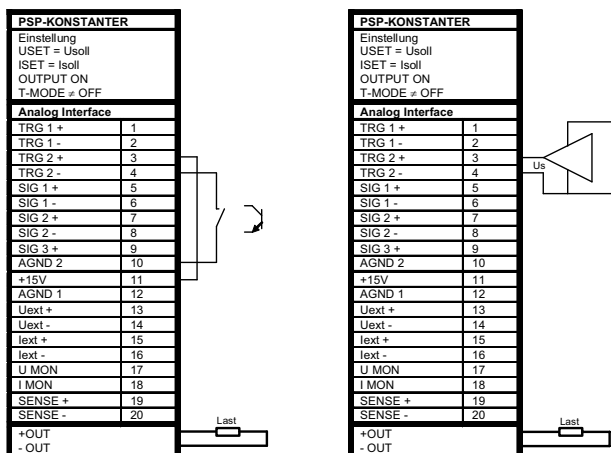

Figure 7.8 Controlling the Trigger Input with a Switching Element / External Signal
- The TRIGGER input can be driven with the +15 V output at the analog interface via any desired switch (figure 7.8).